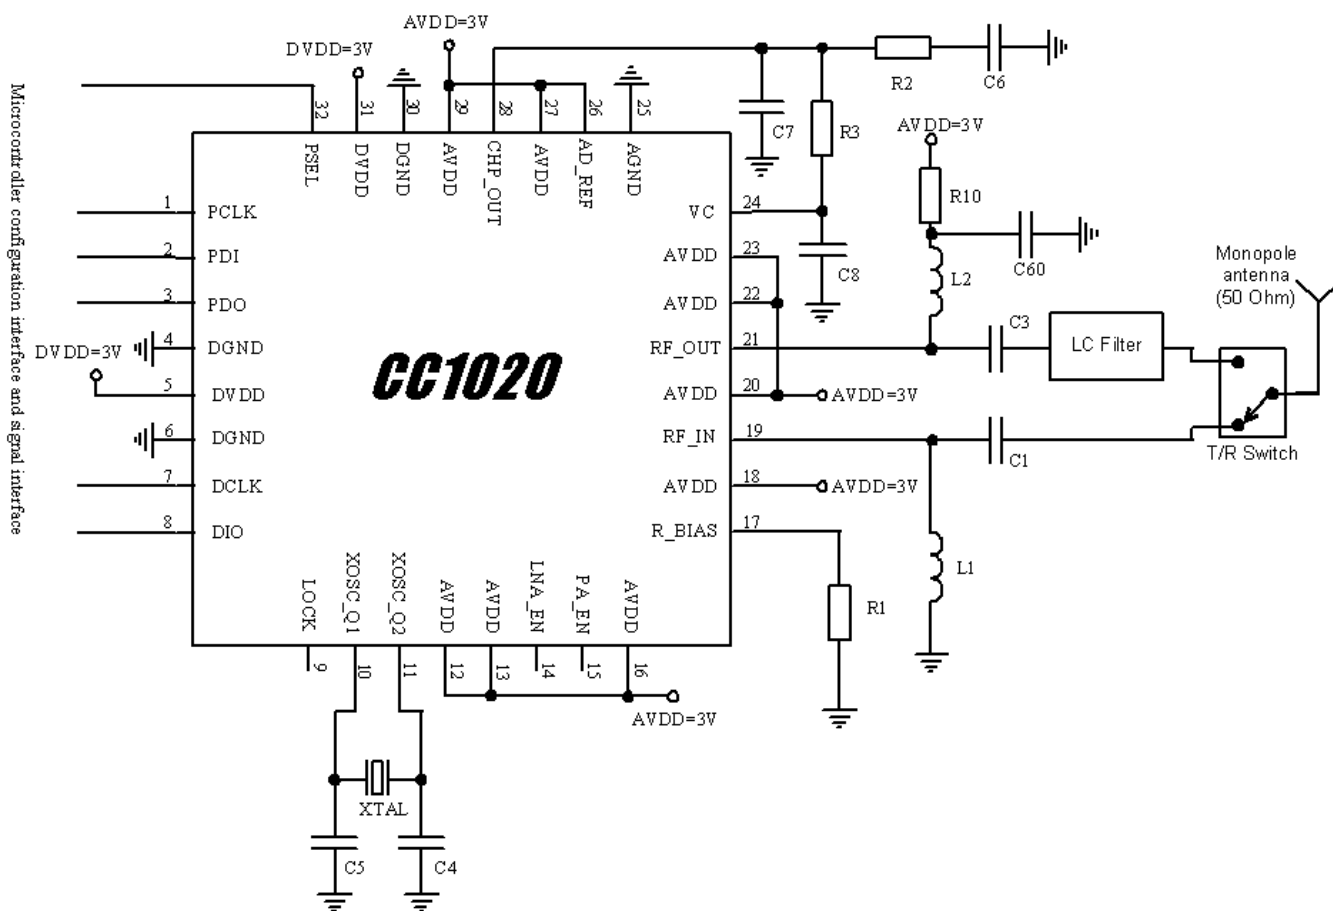
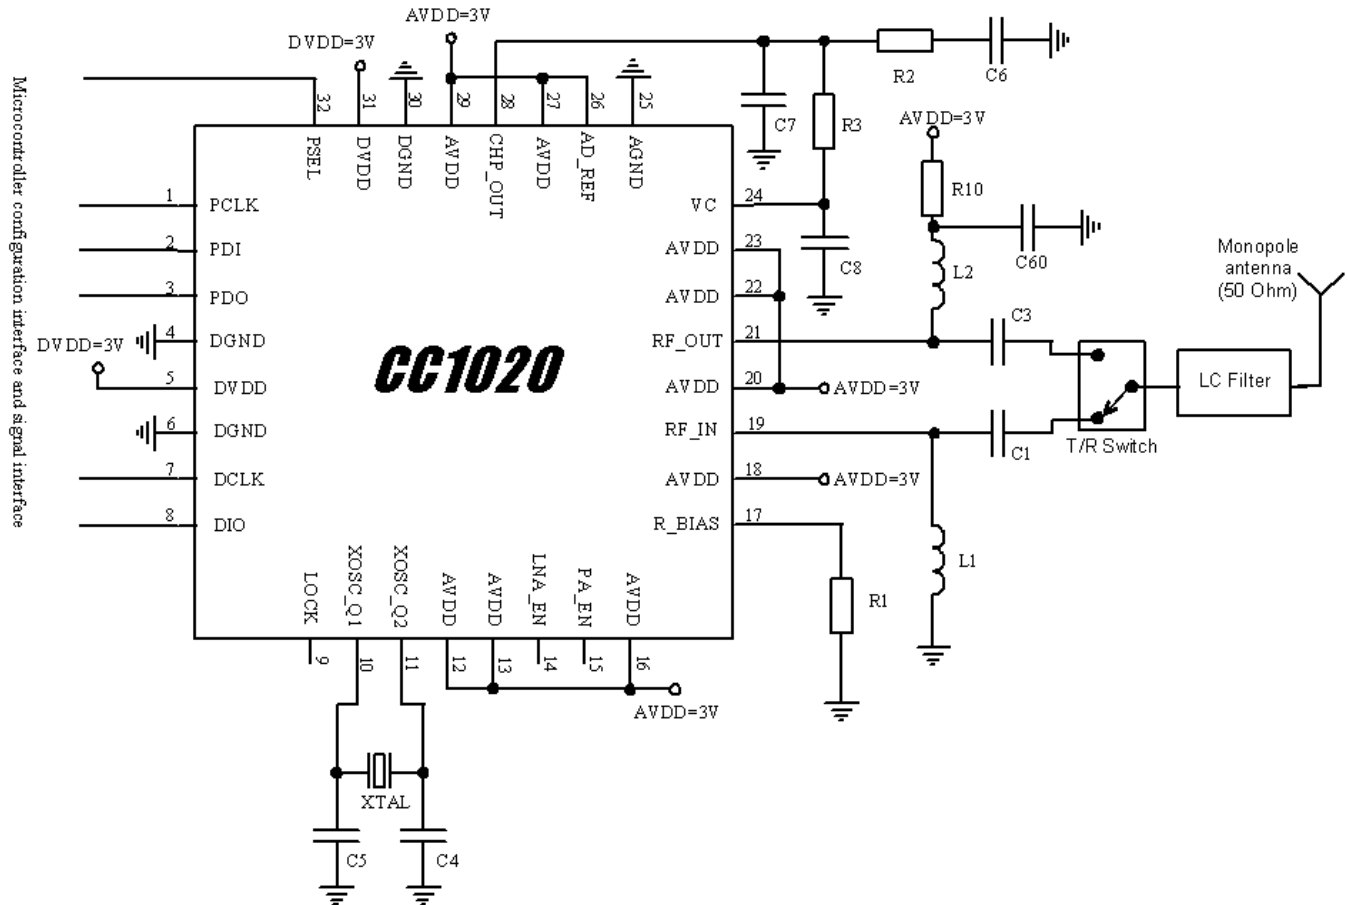

Figure 6-1. Typical Application and Test Circuit (Power Supply Decoupling Not Shown)
Figure 6-2. Alternative Application Circuit (Power Supply Decoupling Not Shown)
Very few external components are required for the operation of CC1020. The recommended application circuit is shown in Figure 6-1. The external components are described in Table 6-1 and values are given in Table 6-2.
**Table 6-2. Bill of Materials for the Application Circuit In Figure 6-1 (1)(2)**
The LC filter in Figure 6-1 is inserted in the TX path only. The filter will reduce the emission of harmonics and the spurious emissions in the TX path. An alternative is to insert the LC filter between the antenna and the T/R switch as shown in Figure 6-2.